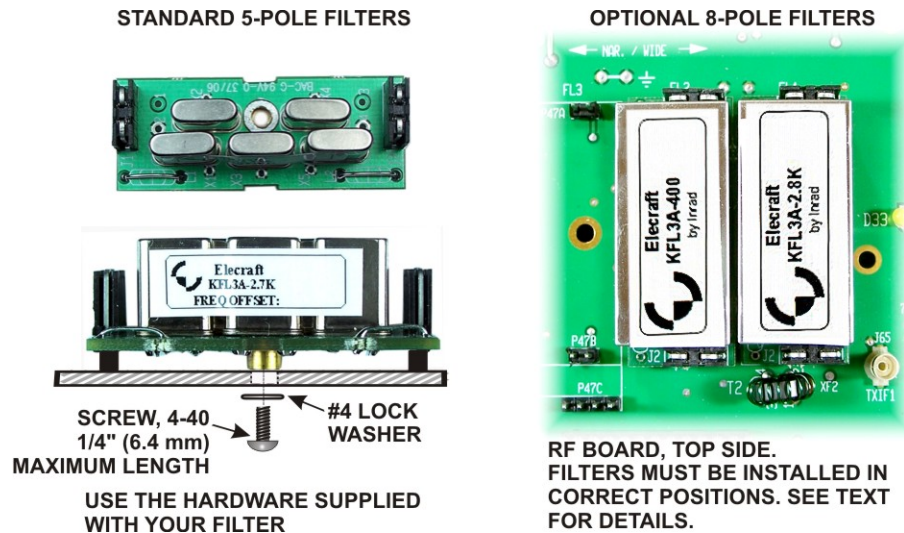

Figure 4. Installing the Crystal Filters.
- Enter the **FREQ OFFSET** shown on each 5-pole filter (see Figure 4). The optional 8-pole filters have no offset. Enter a zero in the **FREQ OFFSET** column for those filters. **For the 5-pole filters, note that the frequency offset may be *negative*, indicated by a minus sign (single dash) ahead of the number.**
Install the filters as shown in Figure 4. Refer to the list of filters you created in Table 1 to determine which filter to install at each location.